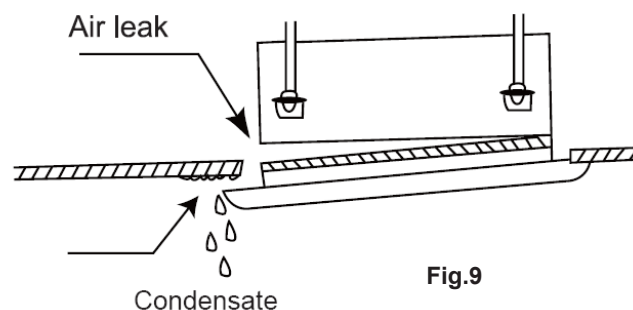

Fig.9
- (7) Improper screwing of the screws may cause the troubles shown in Fig.9.